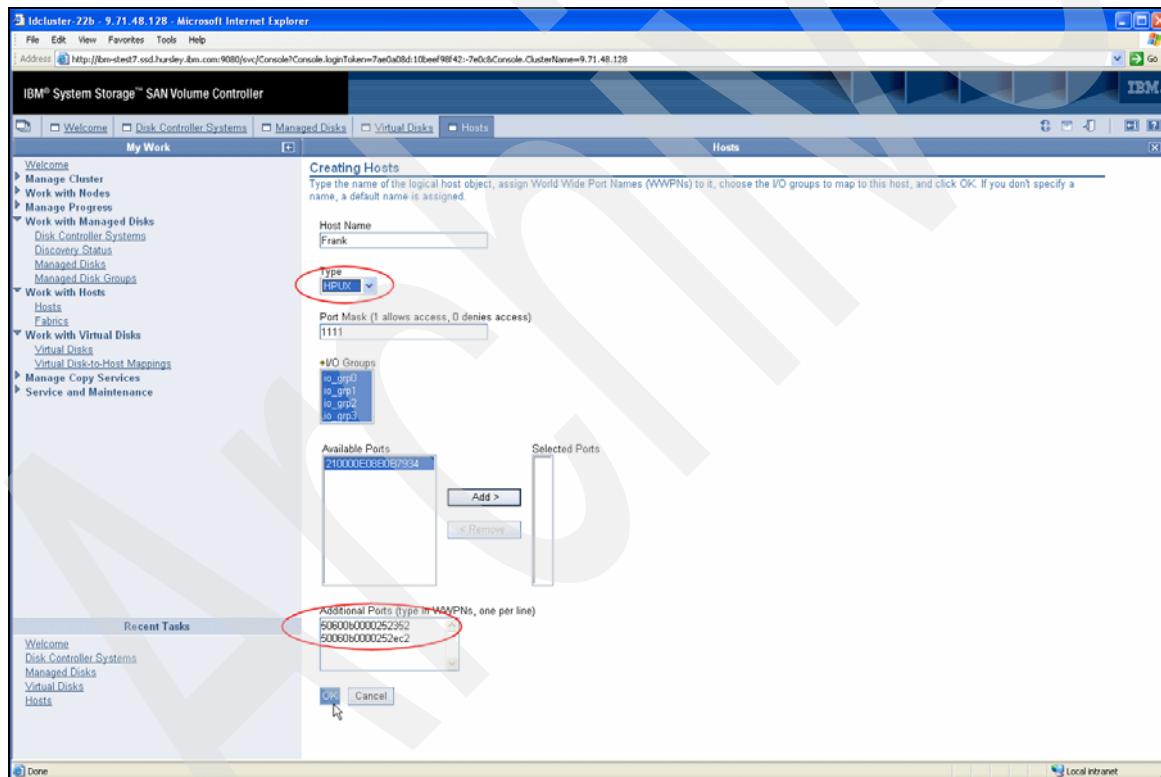

Figure 6-26 Create a host
5. The panel shown in Figure 6-26 is displayed. Name the host and specify its attributes on this panel.